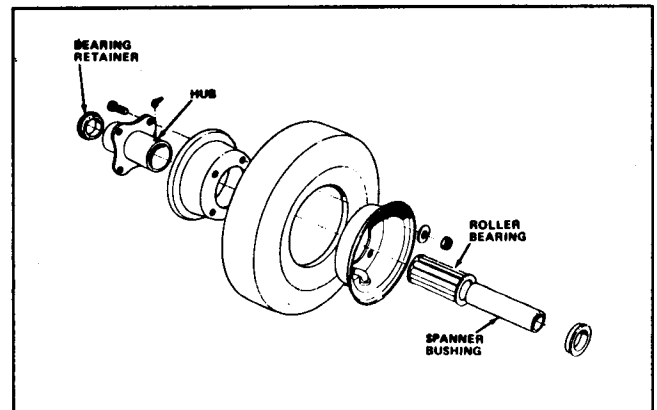

Figure 10
1. Remove locknut from castor wheel axle. Hold castor wheel and pull axle out of fork (Fig. 10).
2. Tip wheel to the side and allow roller bearing and spanner bushing to fall out (Fig. 10).